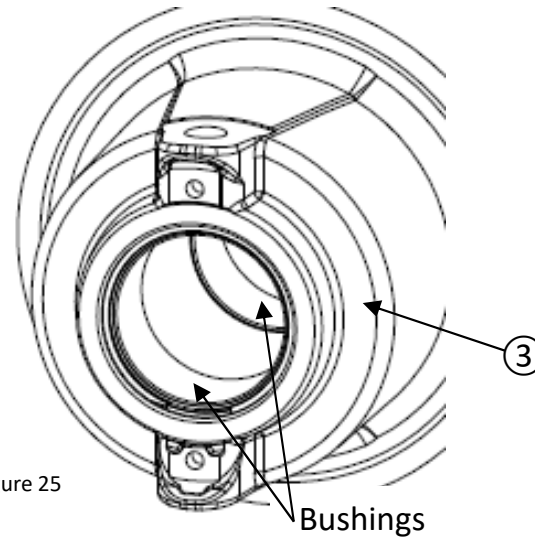

Figure 25
- Check for wear marks on the forward ramps ⑩ and helix ⑪.
- Check for wear marks on the spring ⑦.
- Check the wear of the sliding sheave ③ bushings (visual inspection only, figure 25). If there is excessive wear, you must replace the whole sheave assembly ③.
The bushings cannot be removed from the sliding sheave ③ (figure 25).